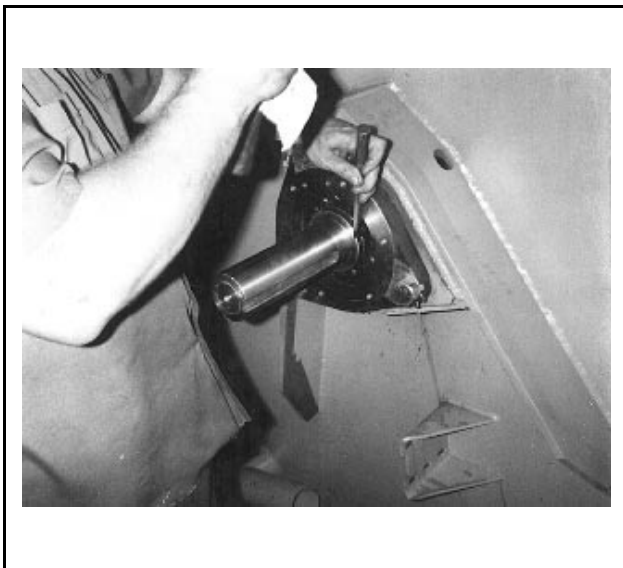

FIGURE 11 (MSSM0303AE)
1. Once both bearings are seated, or if only one bearing was replaced, install the bearing lockwasher(s) and locknut(s). Use a hammer and a metal drift as shown in FIGURE 11, to tighten the locknut. **It is imperative to only tap lightly and to assure that metal chips from the drift or locknut do not fall off and contaminate the bearing.** If both bearings are being tightened, work between the front and rear bearings and turn the basket by hand periodically, while tightening the locknut(s).